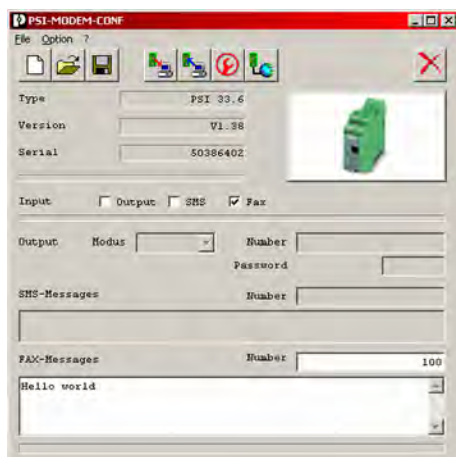

Fig. 187: Phone number/text setting
3. ➤ The phone number and the text can be set as required (Fig. 187).